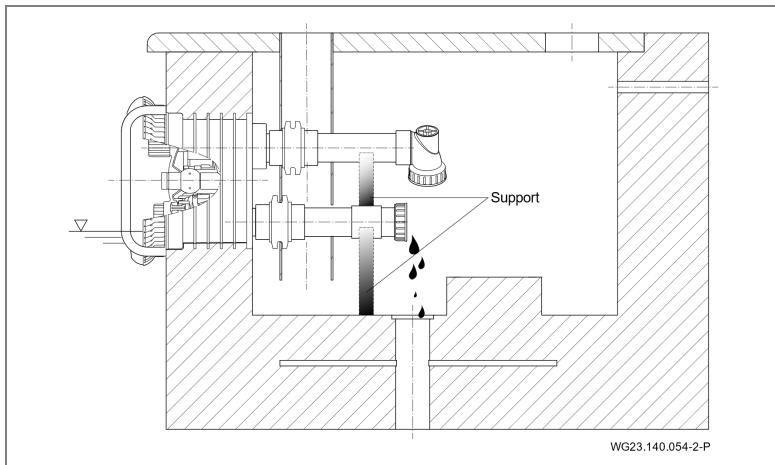

Fig. 28
3. Support the suction and pressure lines to relieve them. See "Fig. 28".